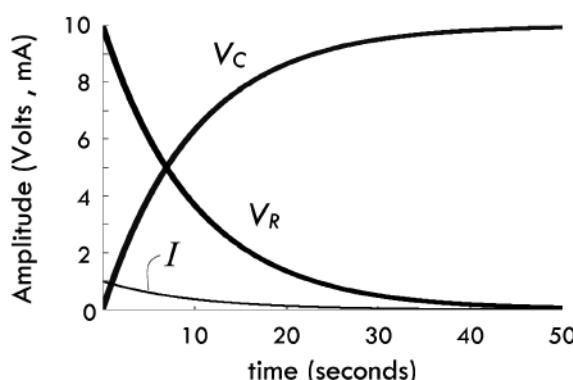

FIGURE 2.202
*Example:* The circuit in Fig. 2.202 can be modeled using Kirchhoff's voltage equation:
Using the component values shown in Fig. 2.202, this equation becomes:
The graph in Fig. 2.202 shows how these voltages change with time. The section on capacitors explains some important details of the RC circuit not mentioned here and also explains how the discharging RC circuit works.